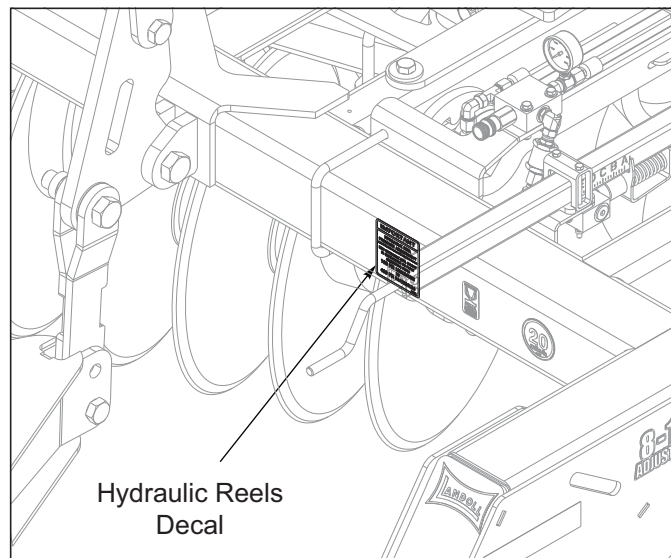

Figure 3-59: Hydraulic Reel Decal
7. Install the hydraulic reel decal in location shown **See Figure 3-59**. For all sizes apply decal to the front crossmember near valve as shown.